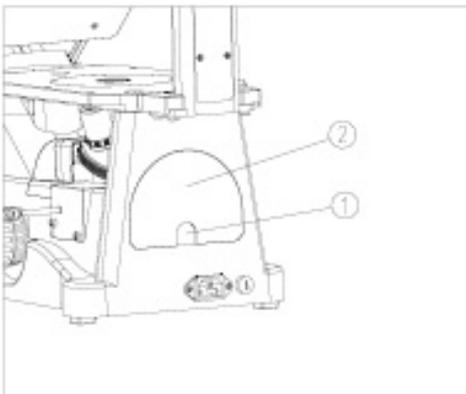

Figure 6
- (1) Hook the hole 1 to take off the fluorescence hole cover 2. (Fig. 6)